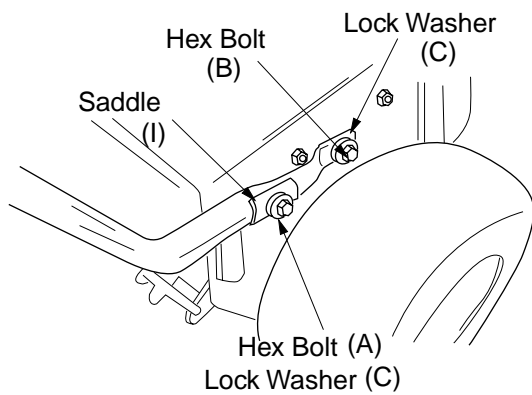

Figure 4
1. Place right handle in position against the snow thrower so the flat side of the handle is against the frame. Secure bottom hole in handle to snow thrower using hex bolt (B) and lock washer (C). There are weld nuts welded to the inside of the frame for these bolts. See Figure 4. Do not tighten at this time.
3. Place saddle (I) over upper holes on handles (curve matching curve on handle). Secure to the frame with lock washers (C) and hex bolts (A). See Figure 4. Do not tighten at this time.